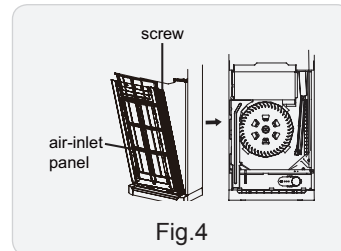

Fig.4
(1) Take out the left and right screw cover and then remove the screws on air-inlet panel, push the front door plate upwards and then separate the connector connected to the connection wire of display and then remove the front door plate sub-assy. Remove two screws on the air-in panel sub-assy. Open the air-in panel along the arrow direction and then remove the air-in panel sub-assy.(As show in Fig.4)